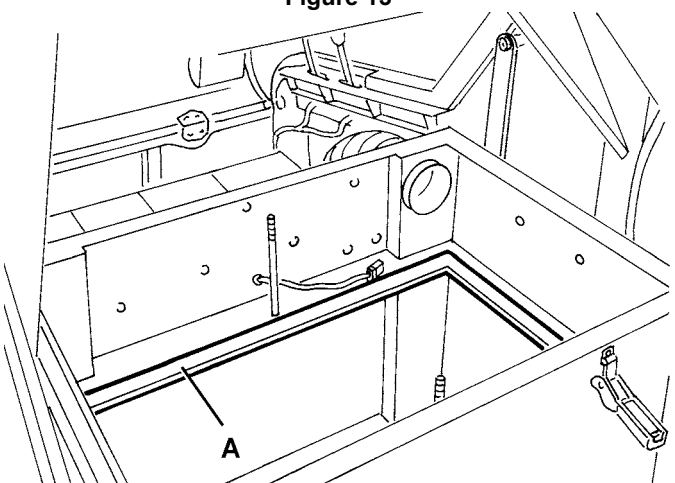

Figure 15
9. If necessary, clean the filter compartment rubber gasket (A, Fig. 15) along its perimeter and check it for integrity. If necessary, replace it.